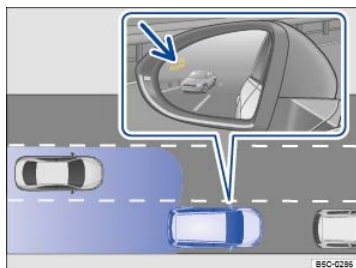
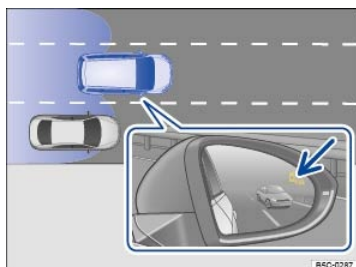

Fig. 156 Driving situation when passing with traffic behind your vehicle. Arrow: Blind Spot Monitor indicator light in the driver side mirror.
Fig. 157 Driving situation when passing and merging into the lane. Arrow: Blind Spot Monitor indicator light in the passenger side mirror.
The following situations result in a signal in the outside mirror ⇒ Fig. 156 (arrow) or ⇒ Fig. 157 (arrow):
- If your vehicle is being passed by another vehicle ⇒ Fig. 156.
- When passing another vehicle ⇒ Fig. 157, and the difference in speed between the two vehicles is no more than about 6 mph (10 km/h). There is no signal if the passing speed is clearly faster.